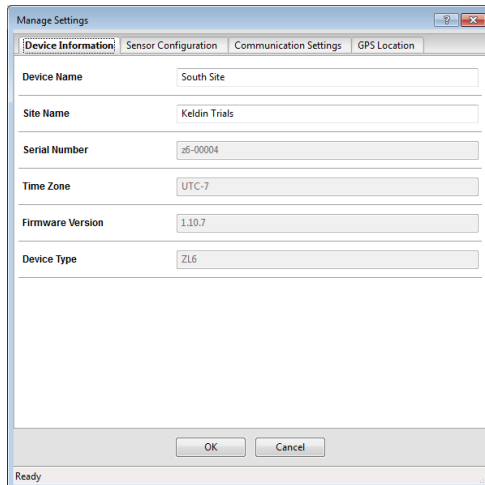

Figure 3 ZENTRA Utility Manage Settings dialog
4. Click **Settings** (Figure 3).